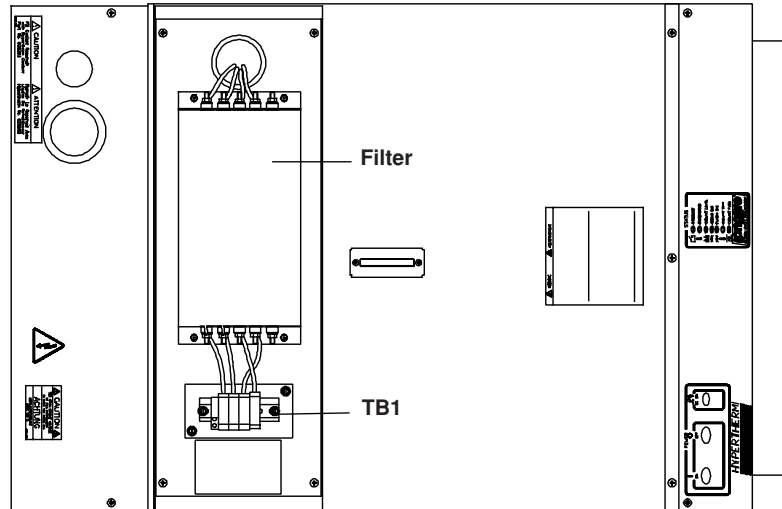

Figure d-2 HySpeed HT2000LHF Power Supply with EMI Filter Cover Off – Top View
2. Unscrew the 4 filter cover screws and remove the cover to access the input voltage connections at TB1 (see Figure d-2).